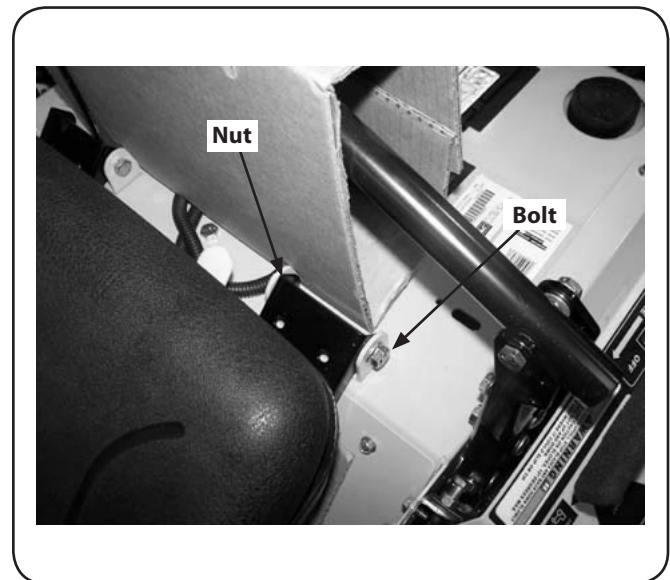

Figure 3-2
2. Remove the two shoulder bolts, nuts and spacers securing the seat as shown in Figure 3-2.